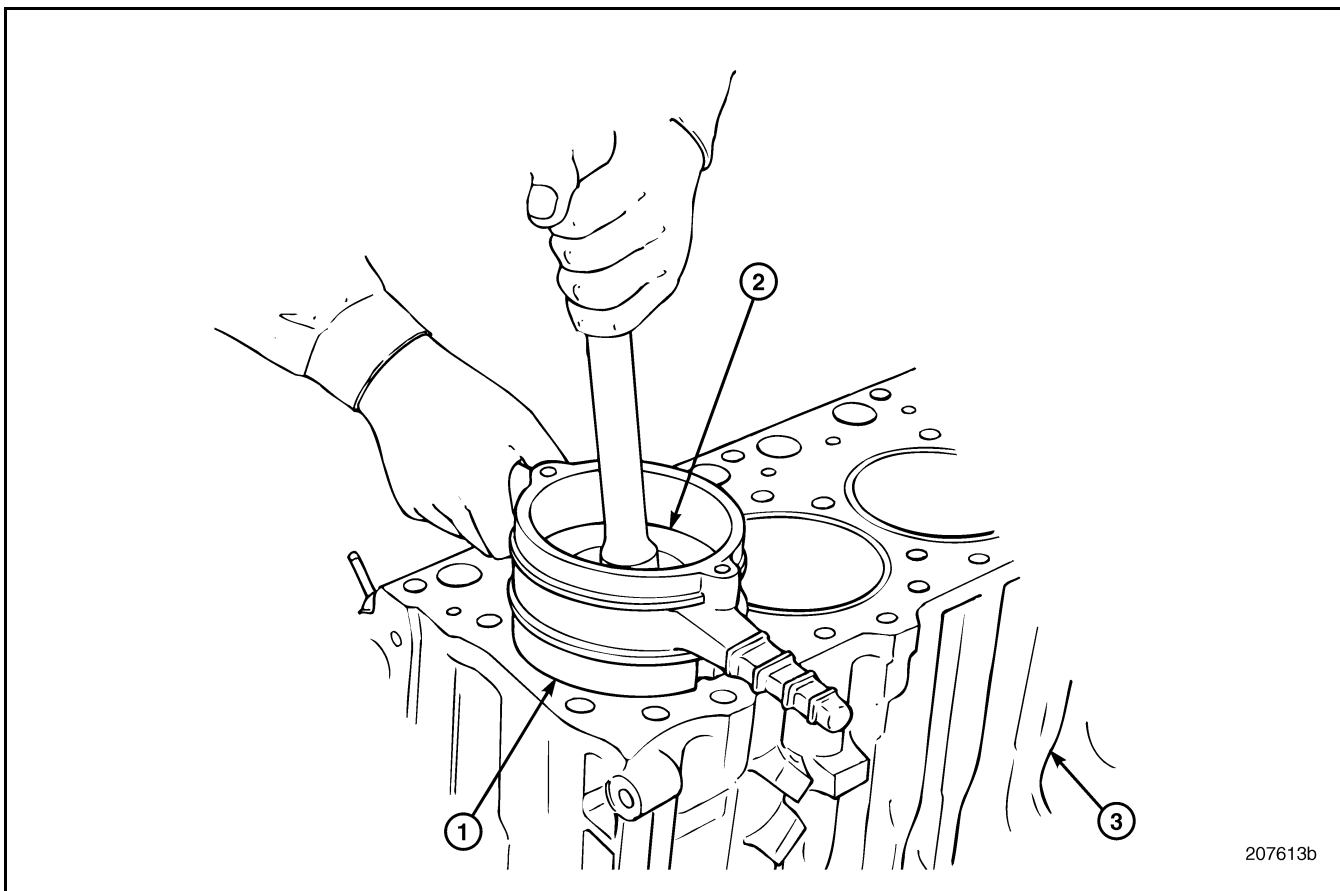

Figure 331 — Pushing Piston into Cylinder Sleeve
11. While applying downward pressure to the ring compressor tool to keep it in contact with the cylinder sleeve, use a hammer handle to push the piston through the tool (Figure 331). Continue pushing on the piston until the top ring has passed into the cylinder sleeve.